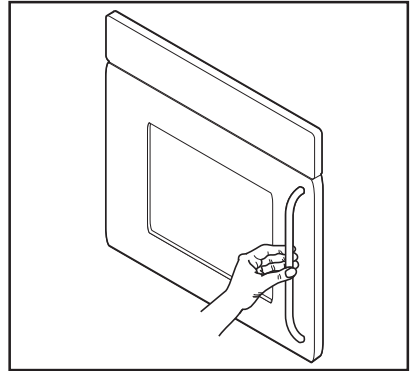

Fig.3
**!** To open the oven door, always hold the handle in the centre (Fig. 3).